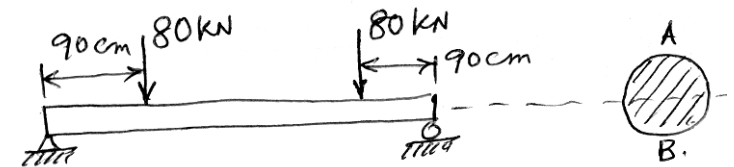

Fig. 8
- (b) A beam of circular cross section is 18 cm in diameter. It is simply supported at each end and loaded by two concentrated loads of 80 kN each, applied 90 cm from the ends of the beam as shown in Fig.8. Determine the maximum bending stress in the beam. 10